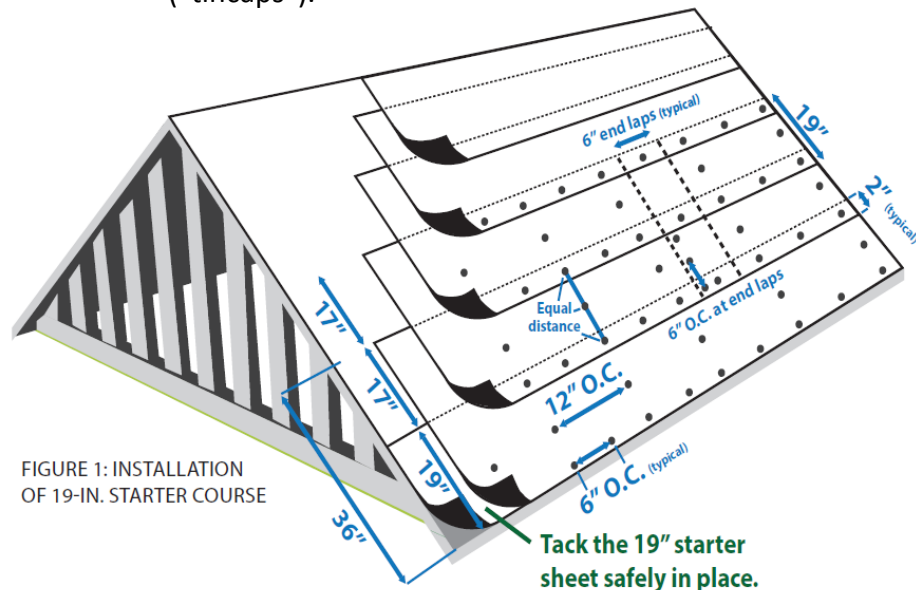

FIGURE 1: INSTALLATION OF 19-IN. STARTER COURSE
- Two (2) layers of ASTM D226 Type II (#30) or ASTM D4869 Type III or Type IV (#30) underlayment shall be installed in a shingle fashion, lapped 19 in. on horizontal seams (36-in. roll), and 6 in. on vertical seams.
- Installation of first course of felt to be installed as described below and shown in Figure 1.